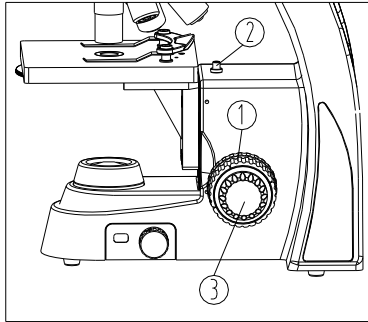

Fig. 9
2. Observe with your left eye and the left eyepiece (binocular and trinocular heads only). Rotate the coarse focusing knob (1) until the specimen outline appears in the view field (see Fig. 9).
3. Rotate the fine focusing knob (3) until clear details are observed.